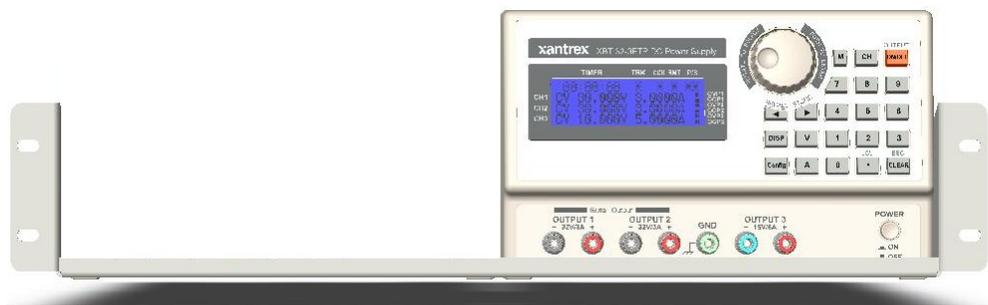

Figure 4. Unit, Top Up, Secured to Main Rackmount Piece
5. Use screwdriver to secure rackmount piece to unit with two (2) M3.0 screws.
7. Turn assembled unit and rackmount piece so that unit's top is face up and rackmount piece is lying on work surface (Figure 4).